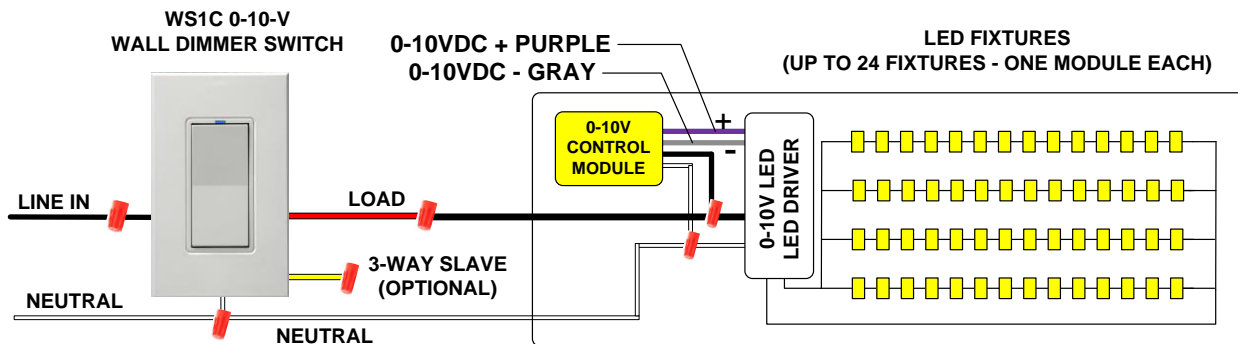

Figure 3: Wiring Diagram
4. Install the WS1C Wall Switch connecting wires per wiring configuration shown in Fig 3
5. Optionally install any RWS Remote Wall Switch per wiring configuration shown in Figure 3.